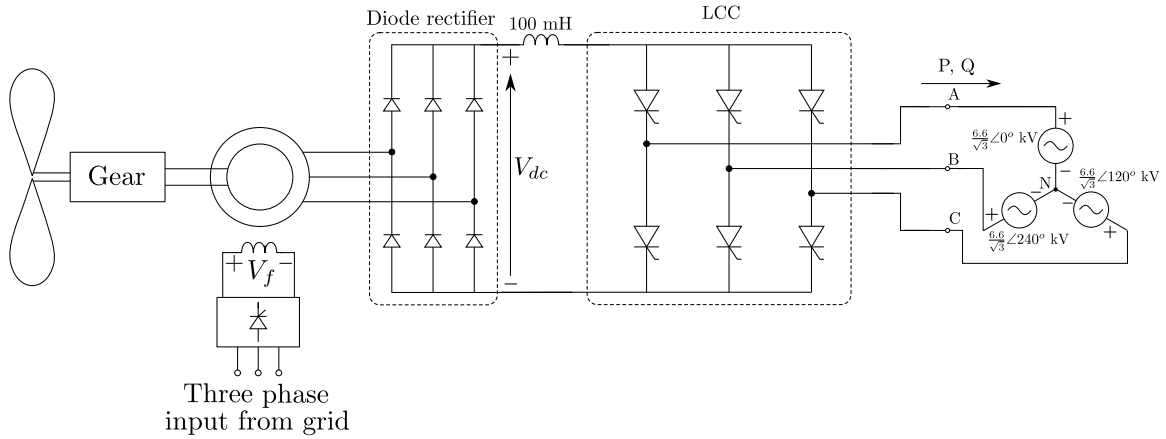

Figure 11: Schematic of the wind-generator system
14. If the synchronous generator of the previous section is connected to a three-phase balance resistive load as shown in Figure 11. Assuming it is initially in steady state, what impact will an increase in the prime mover power have on